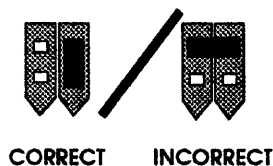

Figure 5.7 – Correct and incorrect jumper installation.
**CAUTION:** Be sure to short only the two pins on a single jumper block. Serious damage could result from shorting pins from two adjacent jumpers (see Figure 5.7).